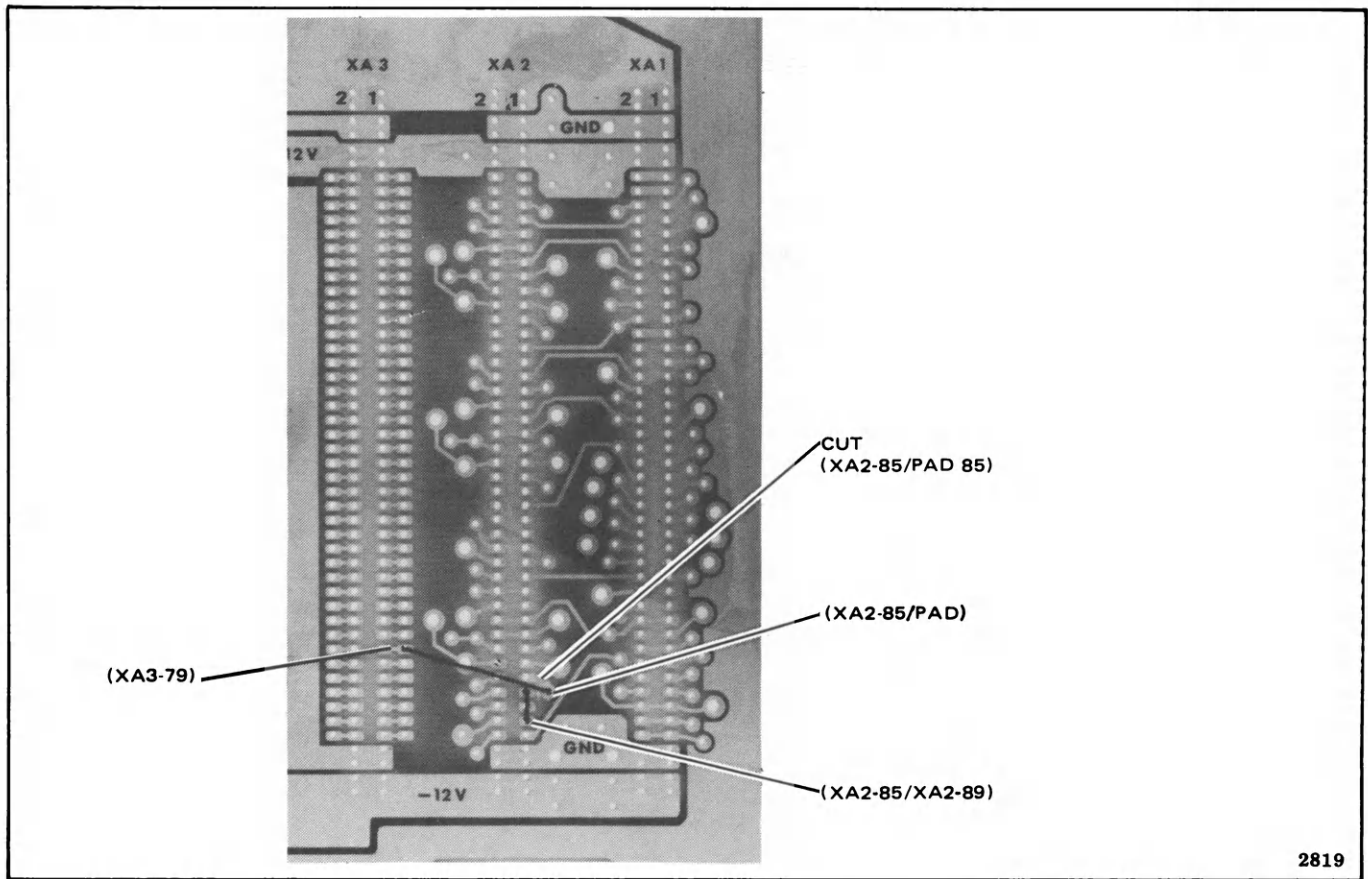

Figure 2. Motherboard, Right Portion
- b. Trace between XA2-85 and pad 85 (Figure 2).
- aa. XA2-85 to XA2-89 (Figure 2)
- bb. XA3-79 to pad, previously connected to XA2-85 (see step 2b) (Figure 2)